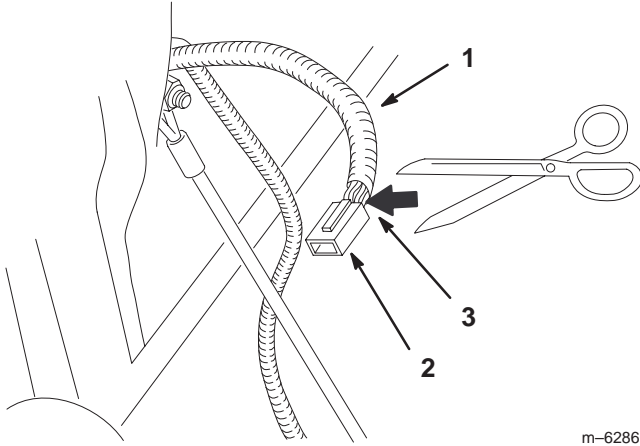

Figure 2
2. Cut the connector off the existing traction unit wire harness (Fig. 2).